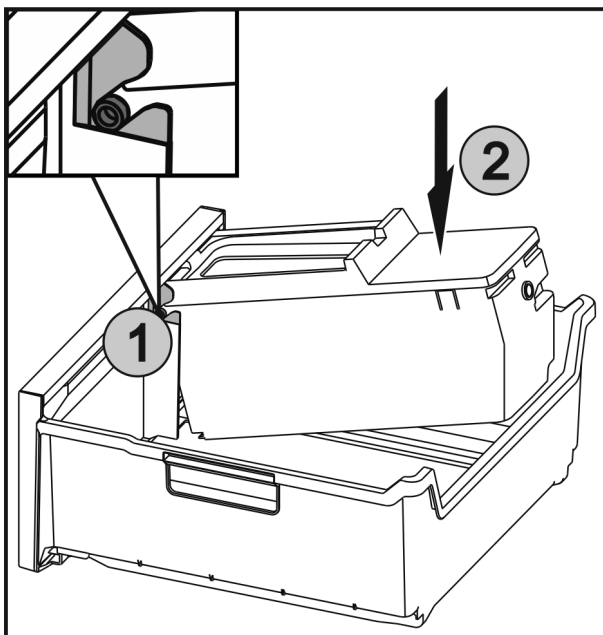

Fig. 73
- ▶ Push the axles Fig. 73 (1) on the EasyTwist-Ice into the guides and push the rear side Fig. 73 (2) until the lugs engage.